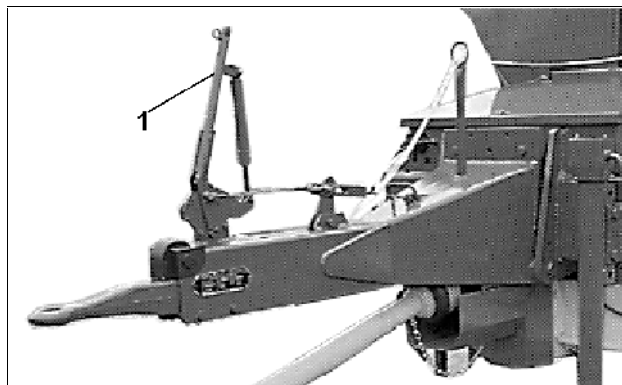

Fig. 19
- Before the ZG-B is uncoupled from the tractor, the brake (Fig. 19/1) must first be applied..